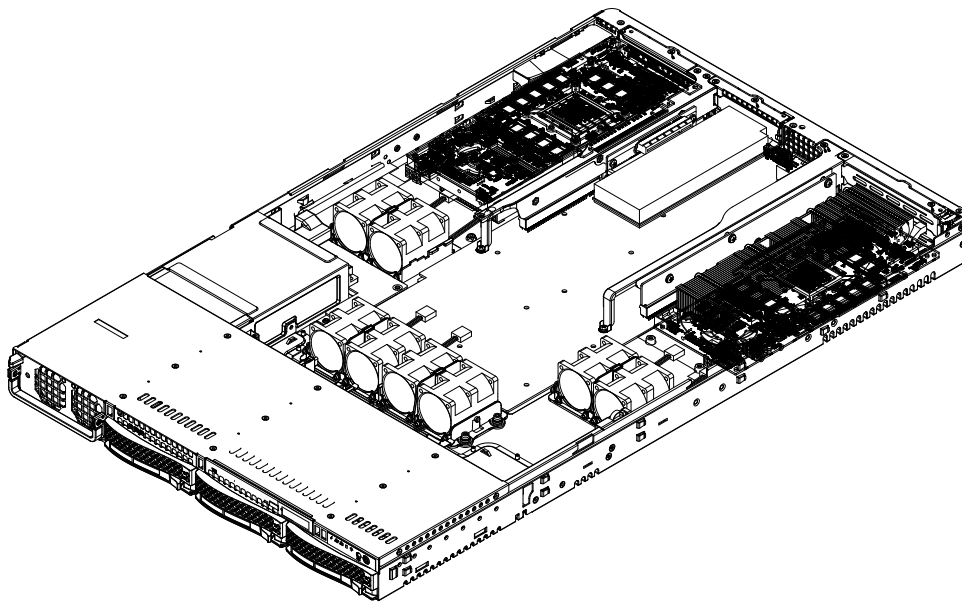

Figure 3-9. GPU Cards Installed in the System
2. Remove the PCI slot shield in the rear of the chassis. Remove the small plastic bracket from the right, rear corner of the chassis (Figure 3-9).